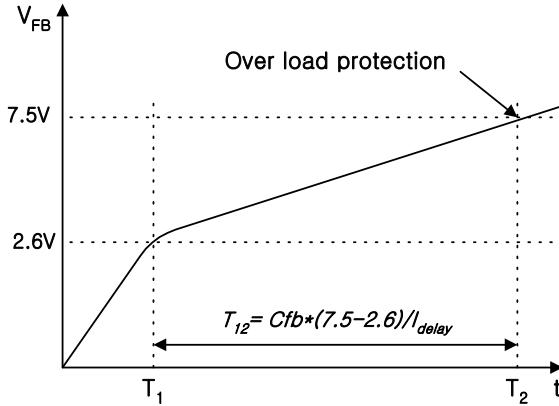

Figure 4. Over load protection
3.2 Over Load Protection (OLP) : Overload means that the load current exceeds a pre-set level due to an abnormal situation. In this situation, protection circuit should be activated in order to protect the SMPS. However, even when the SMPS is in the normal operation, the over load protection circuit can be activated during the load transition. In order to avoid this undesired operation, the over load protection circuit is designed to be activated after a specified period to determine whether it is a transient situation or an overload situation. Because of the pulse-by-pulse current limit capability, the maximum peak current through the SMPS is limited, and therefore the maximum input power is restricted with a given input voltage. If the output consumes beyond this maximum power, the output voltage (V_o) decreases below the set voltage. This reduces the current through the opto-coupler diode, which also reduces opto-coupler transistor current increasing V_{fb} . If V_{fb} exceeds 2.6V, D1 is blocked and the $5\mu A$ current source starts to charge C_{fb} slowly compared to when the $0.9mA$ current source charges C_{fb} . In this condition, V_{fb} continues increasing until it reaches 7.5V, and the switching operation is terminated at that time as shown in figure 4. The delay time for shutdown is the time required to charge C_{fb} from 2.6V to 7.5V with $5\mu A$. When C_{fb} is $10nF$ (103), T_{12} is approximately 9.8ms and when C_{fb} is $0.1\mu F$ (104), T_{12} is approximately 98ms. These values are enough to prevent SMPS from being shut down during transient situations.